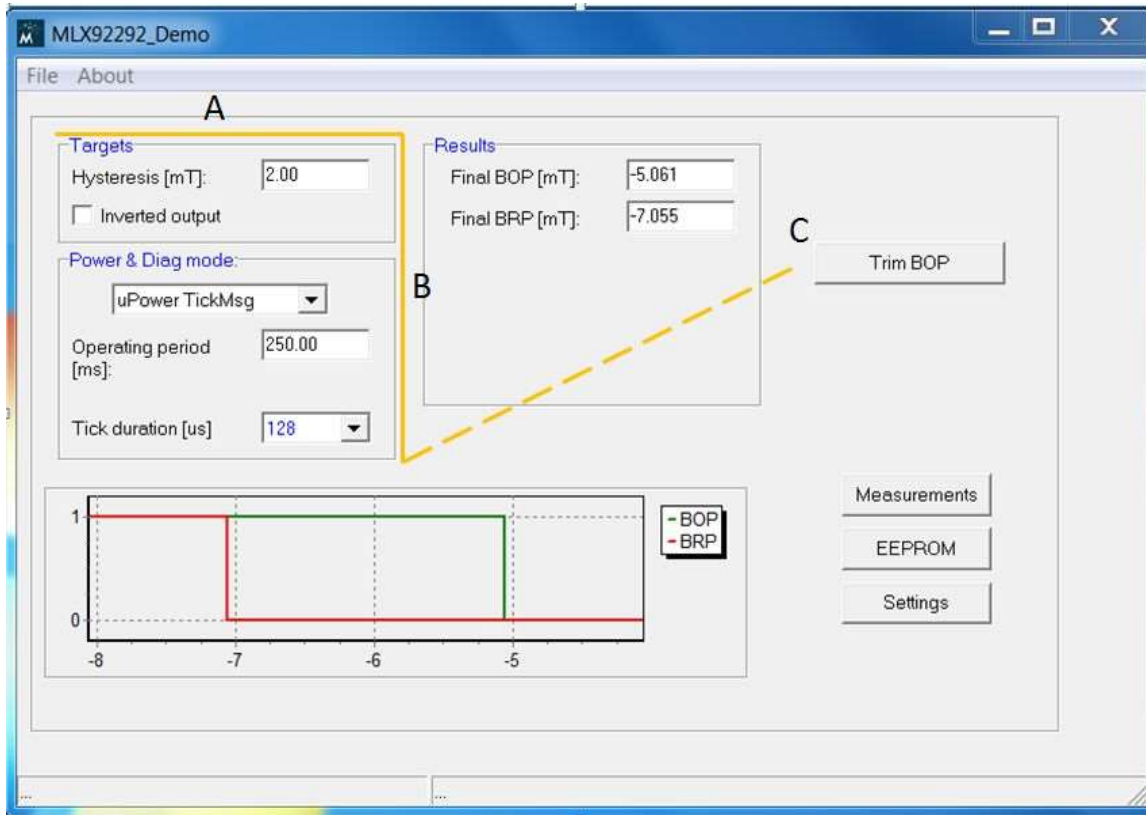
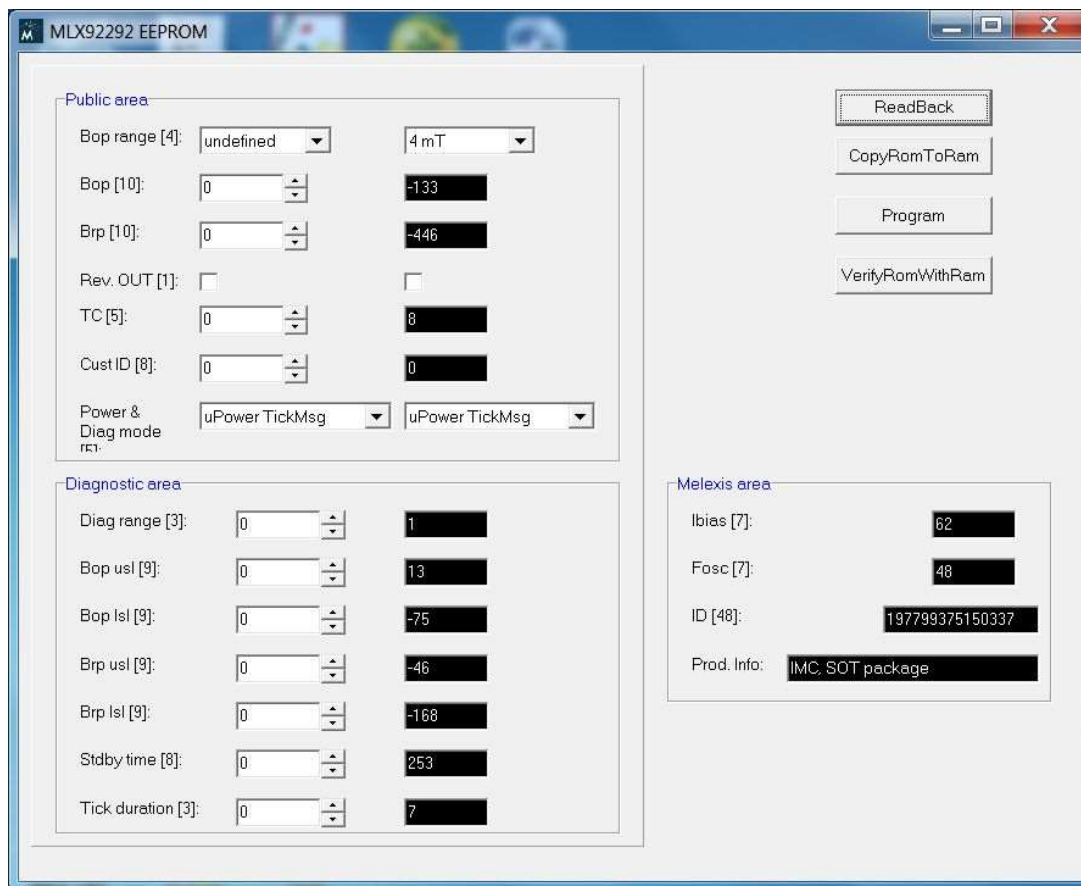

Figure 8 - Solver flow overview
Figure 12 - MLX92292 EEPROM window
- **Trimming BOP (C)**
- Press 'Trim Bop' button on the UI. The solvers measures BOP and calculates BRP based on the programmed hysteresis value. For example, in figure 8 the measured BOP was equal to -5.061mT. Therefore, BRP is determined as BOP - programmed hysteresis (2 mT in this case), resulting in -7.055mT.
- The red and green graphs at the bottom of figure 8 indicate the output behavior.
MLX92292 features several diagnostic modes. Each of these modes can be selected in MLX92292_Demo UI -> Power & Diag mode -> Drop down list just above the **operating period** box (see figure 8).
The EVB922xx UI 'Measurements' option can be accessed by clicking on the "Measurements" button (figure 8).
The EEPROM content of the the e.g. MLX92292 can be analyzed and re-programmed through the "EEPROM" window on the MLX92292_Demo UI (accessible by clicking on the EEPROM button shown in figure 8). The EEPROM window is shown in figure 12.